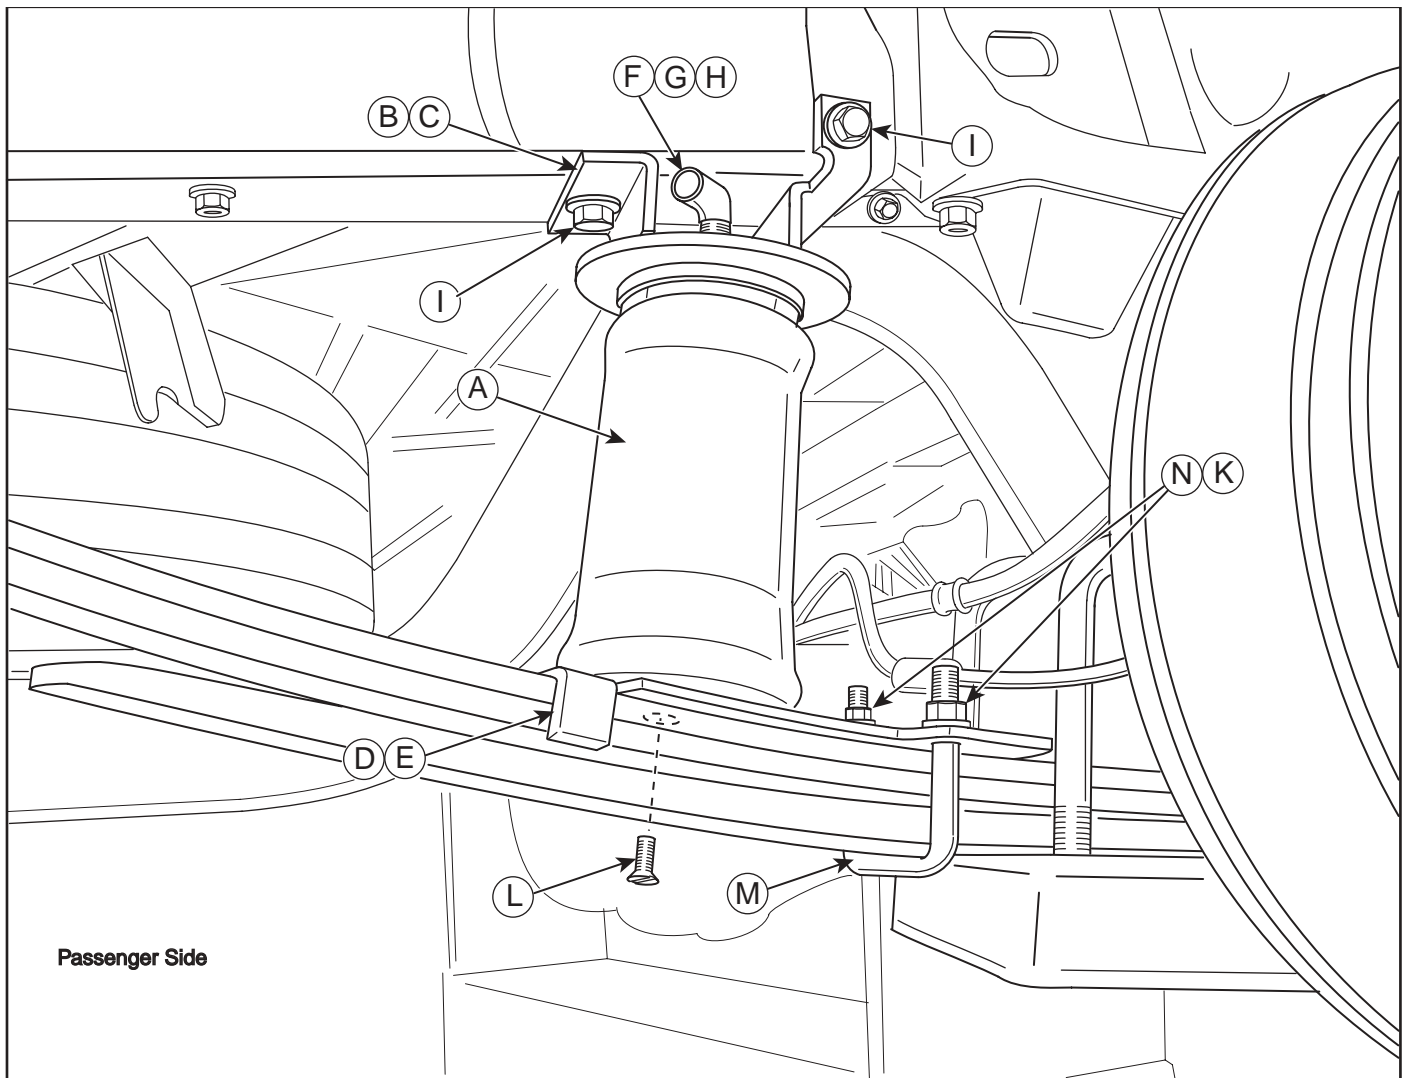

Figure 1
3. Set the brackets on the frame behind the axle as shown (Figure 1 & 2). Clamp the brackets to the frame with vise grips or welding clamps.
5. Attach both brackets to the frame with the supplied (4) four $\frac{3}{8}$ "-16 x 1-1/2" bolts (I), large flat washers (J) and nyloc nuts (K) (Figure 1).
3. Attach the lower brackets to the leaf spring with supplied U-bolts (M), flat washers (N) and nyloc nuts (K) (Figure 1).
4. Feed the top fitting (F) and thread post of the top air spring through the slot on the upper bracket. Attach the large serrated washer (G), then the large nyloc nut (H) over the fitting and thread post. Tighten the nut finger tight only at this time (Figure1).